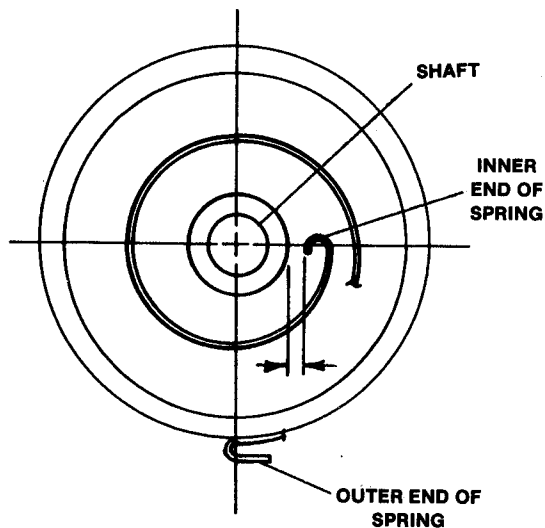

FIGURE 5.5
- B.** Adjust spring inside starter housing until inner end of spring is positioned about 1/8 inch from shaft as shown in Figure 5.5 (This positions the spring end for easy engagement with reel hook).